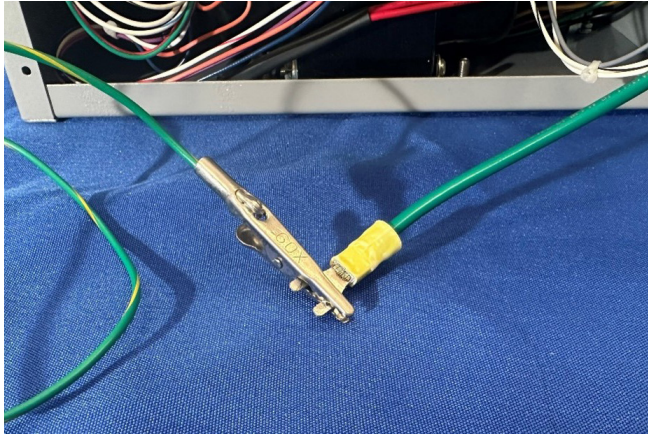

Figure 3. Ground Wire Connector Connected
1. Connect the ground wire connector. See Figure 3.